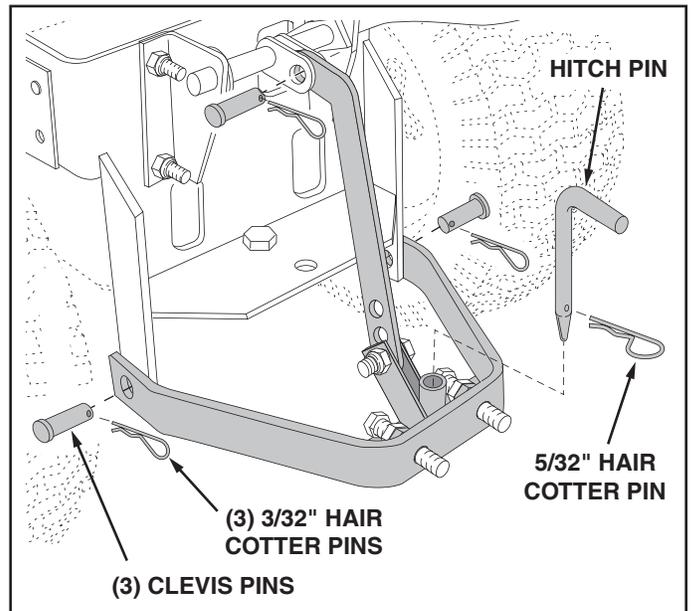

FIGURE 6
- Attach the Sleeve Hitch Lift Assembly to the Sleeve Hitch Frame Assembly using three 5/8" x 1-3/4" clevis pins and 3/32" hair cotter pins as shown in figure 6.
- Install the Hitch Pin in the sleeve hitch and secure it with the 5/32" hair cotter pin. See figure 6.